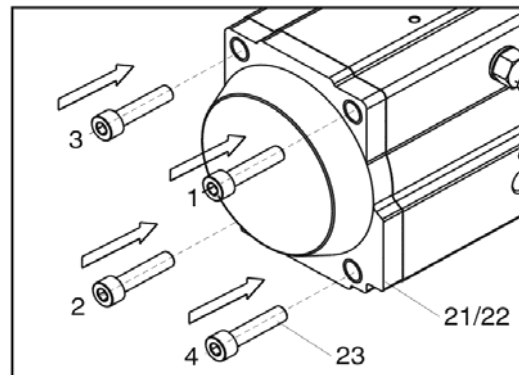

Fig. 14
6) Replace end cap O-rings and install end caps onto the actuator cylinder body. Tight the bolts equally according to Fig. 14.